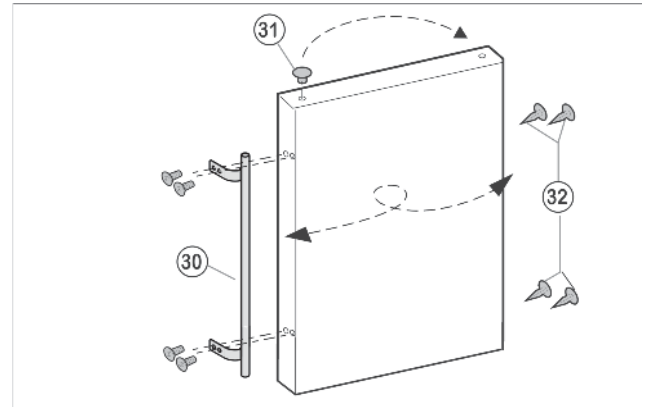

Fig. 20
- ▶ Pull plugs Fig. 20 (31) out of the door bearing bushes and move them to the other side.
- ▶ Detach the door handle Fig. 20 (30) and plug Fig. 20 (32) and move them to the opposite side.